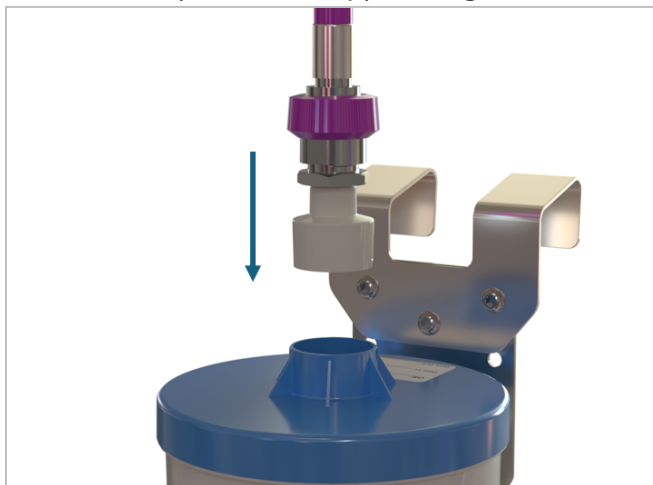

Figure 10.
- WAGD high-pressure hose (no water trap), see figure 10